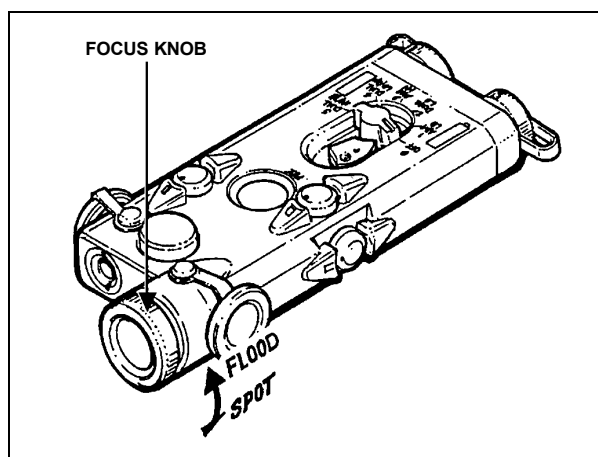

Figure G-6. Using the focus knob.
(6) **Focus Knob.** The focus knob is used to vary the spread of the illumination beam based on the range and size of the area to be illuminated (Figure G-6).